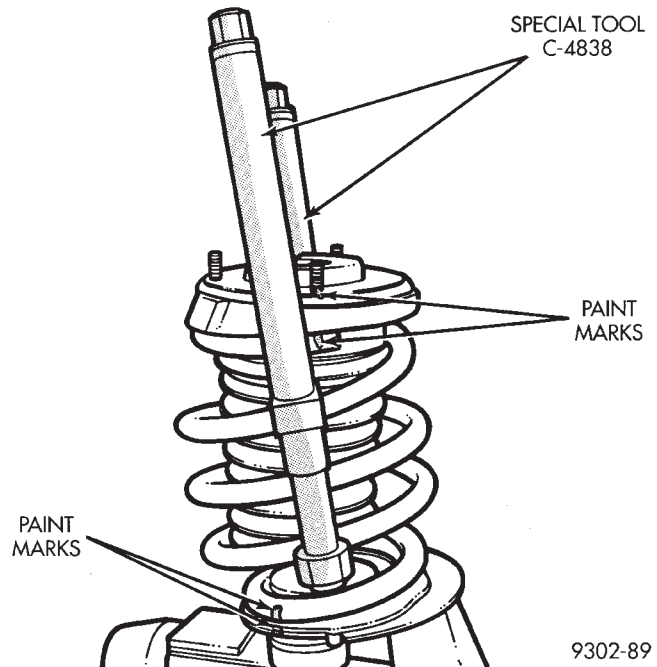

Fig. 67 Compressing Strut Assembly Coil Spring
(1) Remove strut assembly requiring service from the vehicle. Refer to McPherson Strut in the Removal And Installation Section in this group of the service manual for the required procedure.
(2) Position the strut assembly in a vise, by clamping the strut by the steering arm. Using paint or equivalent, mark the strut unit, lower spring isolator, spring and upper strut mount for indexing of the parts at assembly (Fig. 67).
CAUTION: When installing spring compressors (Fig. 67) on coil spring, do not position the spring compressors on the sleeves of the coil spring. Positioning the spring compressors on the sleeves could cause the sleeve to dislodge from the coil spring when it is compressed. This would result in the required replacement of the coil spring.
(3) Position Spring Compressors, Special Tool C-4838 on the strut assembly spring (Fig. 67). Compress coil spring until all load is removed from upper strut mount assembly.